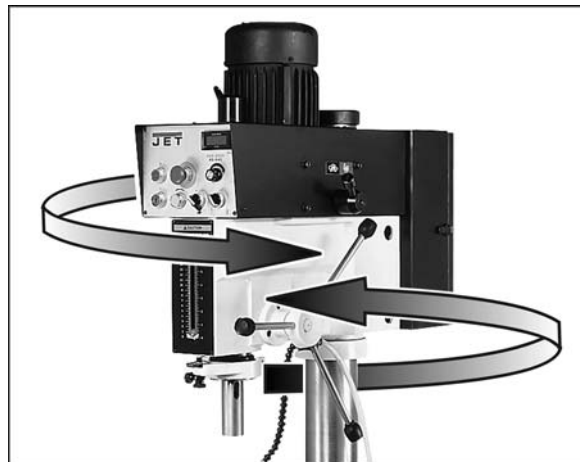

Figure 5
2. Take the head and turn it slightly from side to side (Figure 5) to loosen the rust prevention solution on the column